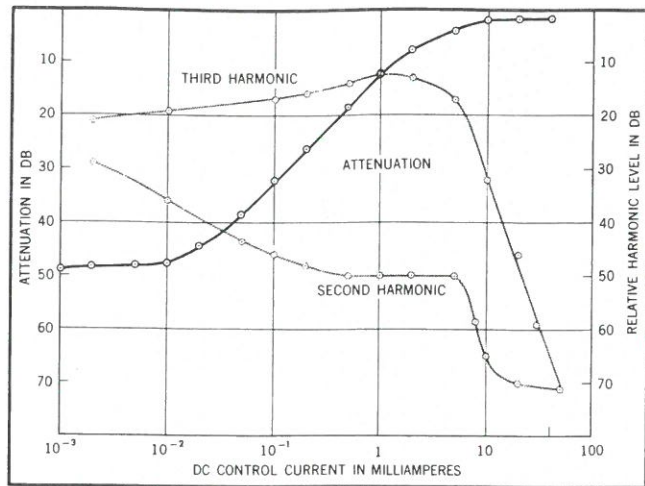

Figure 5. Typical Attenuation
18. Figure 5 shows attenuation and relative harmonic levels characteristic of a typical Model 10514A Mixer when used as a current-controlled attenuator. In this example input signals are 50 MHz at +3 dBm at L and 0 to 40 ma dc control current at X.